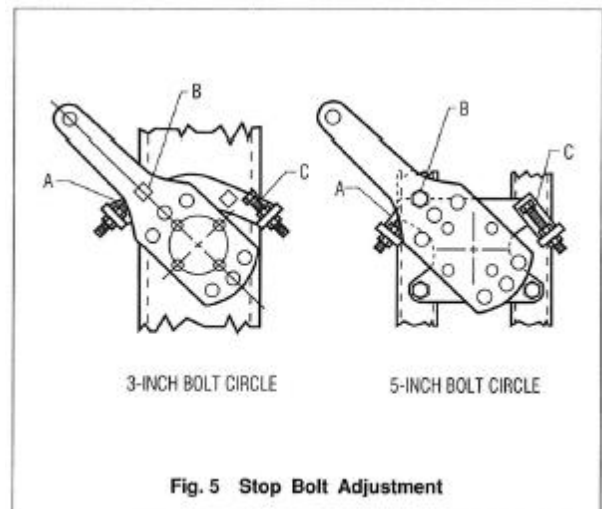

Fig. 5 Stop Bolt Adjustment
1. With the switch in the fully closed position, adjust the closed position bolt (A) so it engages the mating projection (B) on the crank. See Fig. 5
2. Move the switch to the fully open position and adjust the open stop bolt (C) in the same manner.